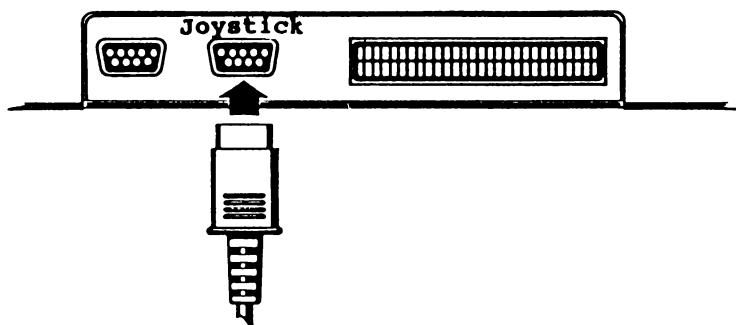

Fig 4-2
- (1) Insert the joystick cable into the connector marked "JOYSTICK" on the right side of the system unit as shown in Fig 4-2.
- (2) The stick is used to control the up, down, left and right movement of the object.
- (3) PB0: Push Button 0.
- (4) PB1: Push Button 1.
- (5) U/D (Up/Down) variable resistor: